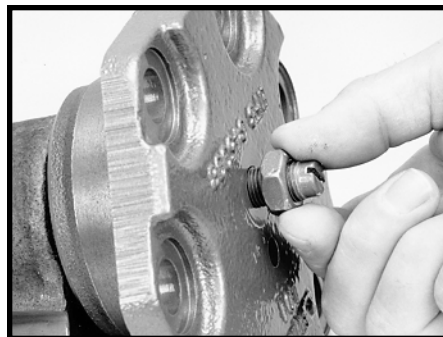

Figure 143
36. Install the sector shaft adjusting screw jam nut (59) onto the sector shaft adjusting screw(51) a few threads. Final adjustment will be made later. SEE FIGURE 143.